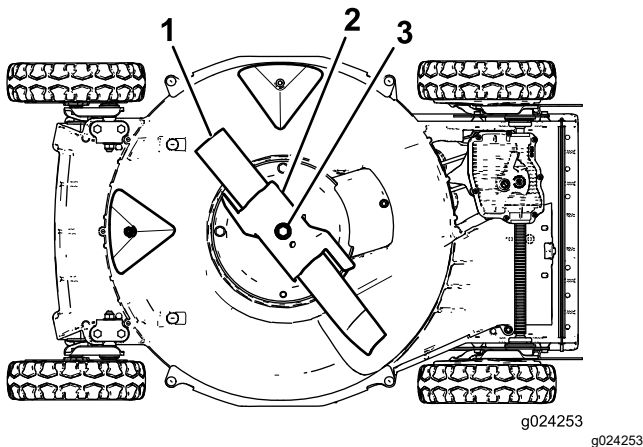

Figure 22
4. Tip the machine onto its **right** side (air cleaner up) as shown in Figure 22.